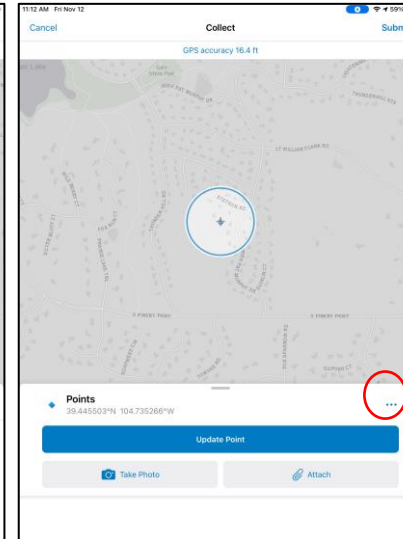

Figure 7
7. Edit the notes for the point and tap the **Menu** icon (Figure 7)